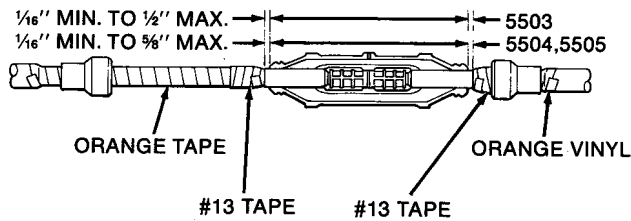

Figure 4
10. Center splice body over connector as shown in Figure 4.
11. Inspect the splice to ensure that the #13 Tape does not extend inside the splice body. SEE FIGURE 4 FOR TOLERANCE.